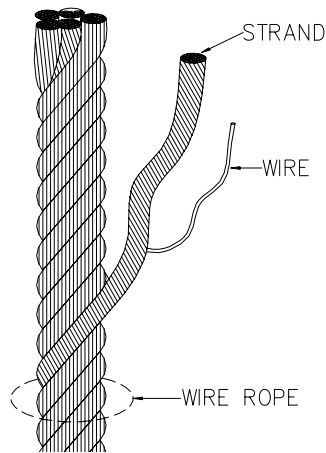

Figure 5-1
- (b) Six randomly distributed broken wires in one rope lay. A rope lay is the length of rope along which one strand makes a complete revolution around the rope. See Figure 5-1. Keeping the rope clean and wound evenly on the winch drum will increase its life and efficiency.